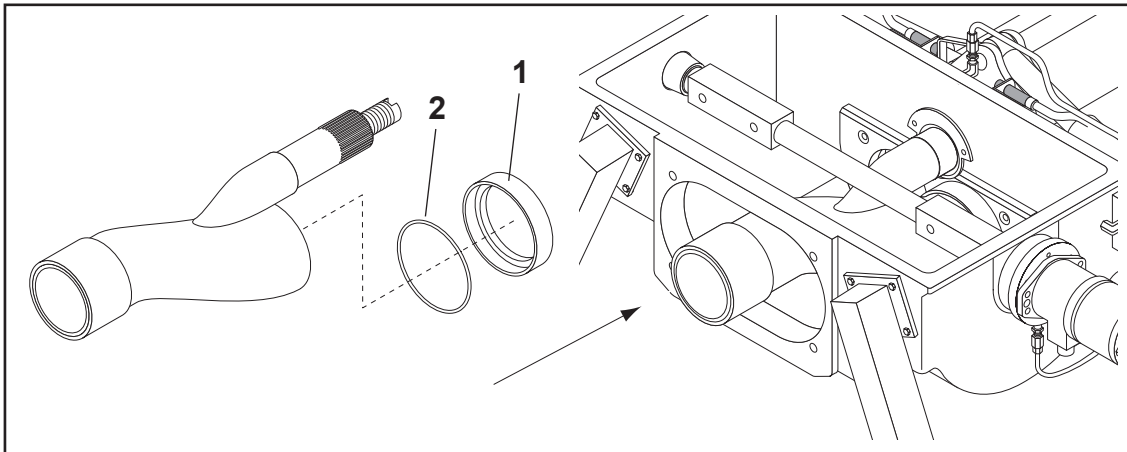

FIG. 77
- Install the wear disc (FIG. 77-REF. 1) with the O-ring (FIG. 77-REF. 2) on the S-valve.